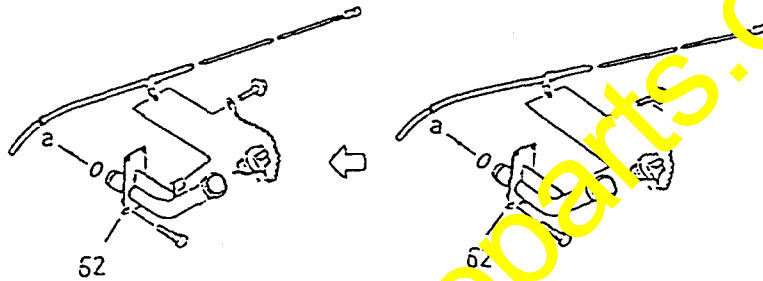

Fig. 43
- ⑪ Change of oil filler on WA800-2 (Fig. 43)